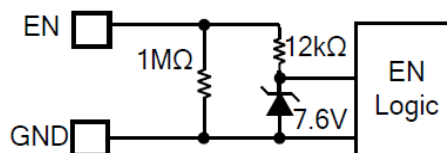

Figure 2: Zener Diode between EN and GND
The MPQ4475M has an enable control pin (EN). Pulling EN high enables the IC; pulling EN low disables the IC. Connect EN to V_{IN} through a resistor for automatic start-up. An internal 1MΩ resistor from EN to GND allows EN to float to shut down the IC. EN is clamped internally using a 7.6V series Zener diode (see Figure 2).